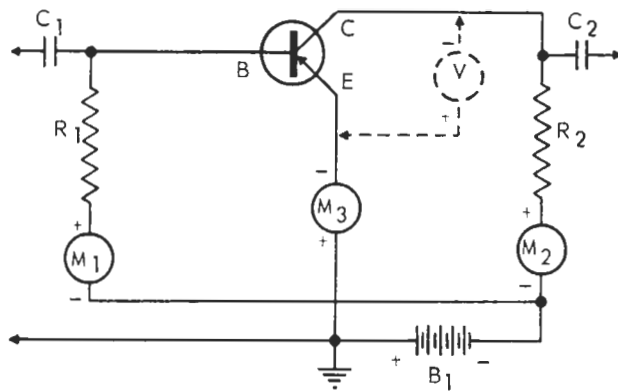
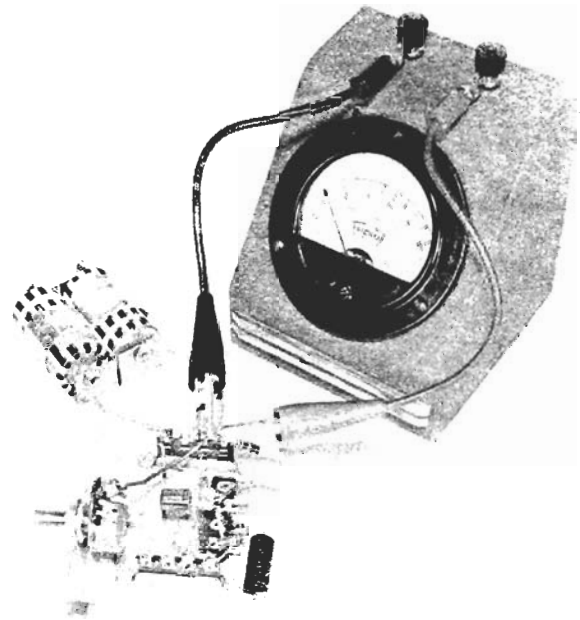

FIG. 2-3
FIG. 2-4
Basic measurements in a common-emitter amplifier stage are diagrammed in Fig. 2-3 while a breadboard model of a special transistor circuit is shown in Fig. 2-4.
Referring to Fig. 2-3, M_1 is used to check base bias current, M_2 to measure collector current, and M_3 to check emitter current. A Voltmeter (V), shown dotted, is used for checking interelectrode voltages. The battery and meter D.C. polarities shown are for a PNP transistor. Depending on the transistor and its intended operation, M_1 may be an 0-100 or 0-500 Microammeter, and M_2 and M_3 may be 0-5 or 0-25 Milliammeters. Voltmeter range will depend on the battery (B_1) used. In typical transistor circuits, B_1 may supply from 1.5 to 30 volts.
As experience is acquired, the experimenter may find that he can estimate basic component values without too much difficulty. For example, referring to Fig. 2-3, for a typical transistor, R_1 's value will generally fall between 100K and 1 Megohm, R_2 's value will be from 3.3K to 47K, and B_1 will supply from 1.5 to 9 volts.